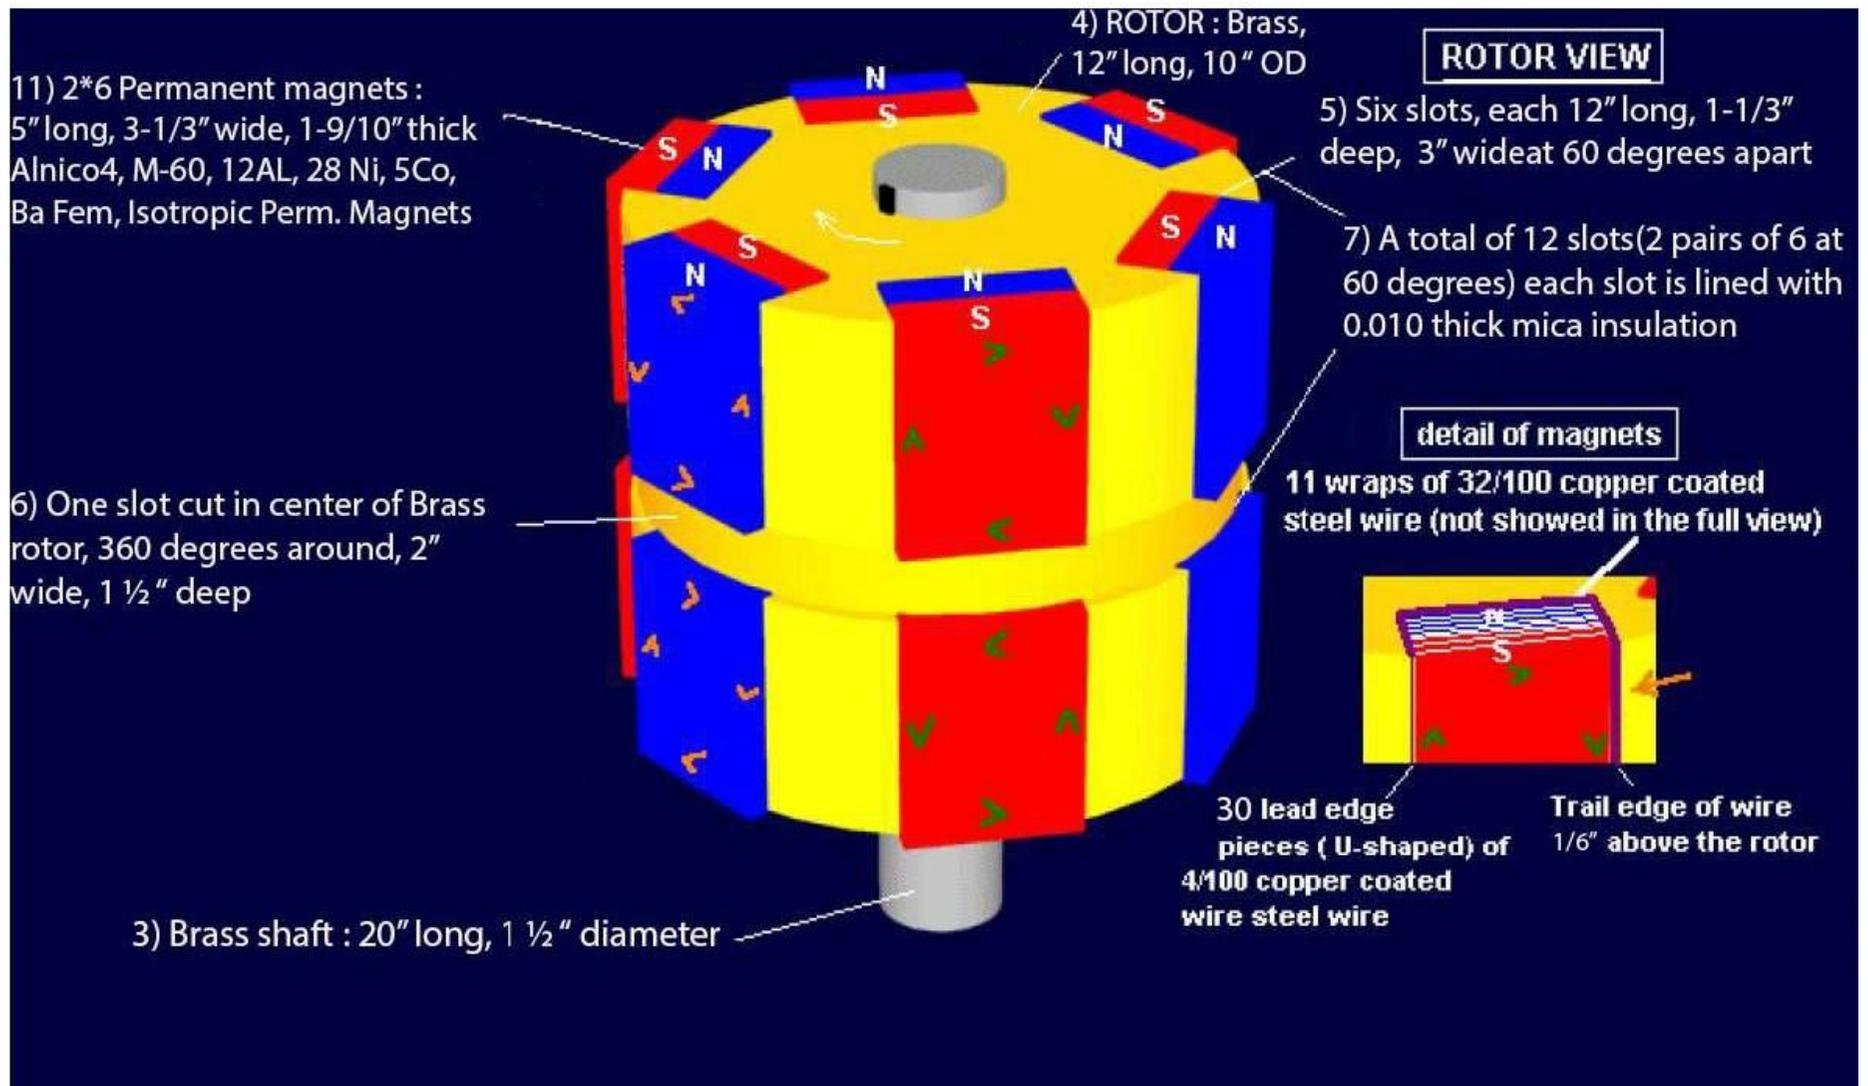

Figure 9.
14) In the Figure 9 you will see the wires being wrapped around the magnet right from the top half (north) and after wrapping around the magnet 11 times, you will see that it is connected to the lower half (south). This wire then goes into the second magnet and is connected to another wire which is the attract wire which is its north side. Following these steps all the magnets will be attached from north to south or from south to north. The actual connections should not be soldered with the insulation and instead should be crimped copper clips that stop the contact to the Rotor body. The magnets that are used are fixed by the wires and are wrapped tight and comfortably around them. This might not be the best way to do the experiment. However, it sure keeps the magnet in one place.